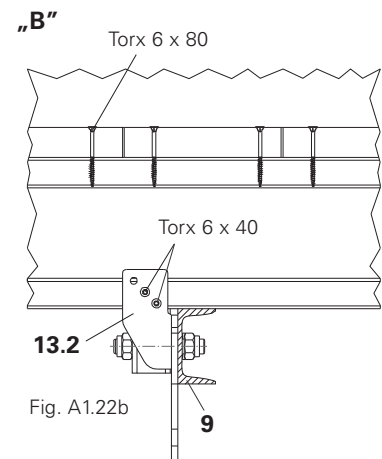

Fig. A1.22b
5. Fix planking on the girders using Torx 6 x 80 (2x). (Fig. A1.22b)